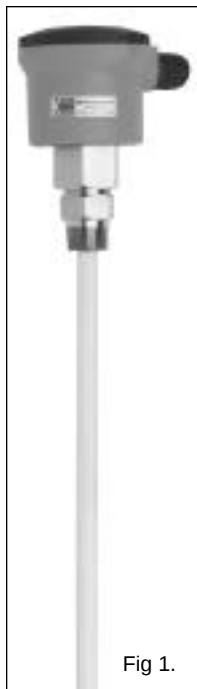
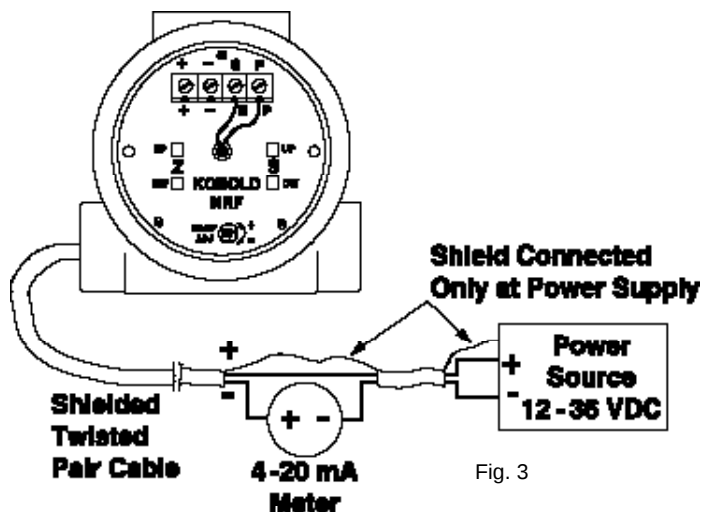

Fig 1.
Fig. 3
The **NRF** comes complete with the transmitter mounted in an enclosure, fitting and probe (Fig. 1). Micro-processor based electronics are protected and potted within a metal housing. Calibration is made via four push buttons (Fig. 3) as explained later. Variety of options including **Stainless** or **PVC** housings, rigid or flexible probes (bare or jacketed), **NPT**, sanitary or flange connections are available.
5. Connect positive supply wire to the positive terminal of the transmitter. See Fig. 3.
- a. Negative transmitter wire to positive meter terminal. See Fig. 3.
- b. Negative meter terminal to negative power source terminal. See Fig. 3.
2. Connect the loop current meter as per instructions in WIRING section (Fig. 3).